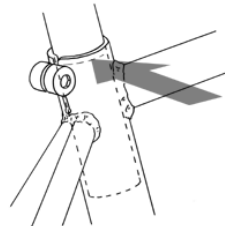
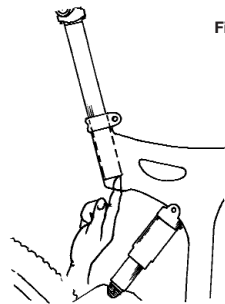

Fig. 4
Fig. 5
Once the saddle is at the correct height, make sure that the seatpost does not project from the frame beyond its "Minimum Insertion" mark (fig. 4).
If your bike has an interrupted seat tube, as is the case on some bikes with rear suspension, you must also make sure that the seat post is far enough into the frame so that you can touch it through the bottom of the interrupted seat tube with the tip of your finger, without inserting your finger beyond its first knuckle (see fig. 5). Ensure that any seat post projecting from the interrupted seat tube does not interfere with the free movement of the rear suspension.
**WARNING:** If your seat post projects from the frame beyond the Minimum Insertion mark (see fig. 4) or you cannot touch the bottom of the seat post through the bottom of the interrupted seat tube with the tip of your finger without inserting your finger beyond its first knuckle (see fig. 5), the seat post may break, which could cause you to lose control and fall.